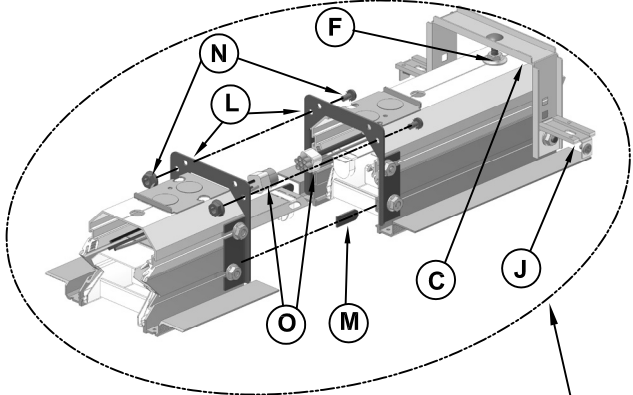

FIG. 8
MOUNT NEXT FIXTURE IN A SIMILAR FASHION AS FIRST FIXTURE SUCH THAT THE ALIGNMENT TABS (M) AND LAMP SOCKET PLATE FIT INTO THE FIRST FIXTURE. MAKE CONNECTION OF THE WIRE HARNESS (O) AND PUSH EXCESS WIRE BACK INTO FIXTURE. SLIDE FIXTURES TOGETHER, MAKING SURE THAT WIRE IS NOT PINCHED BETWEEN Joints, AND BOLT FIXTURES TOGETHER WITH NUTS AND BOLTS (N) SUPPLIED. (REF. FIG. 8)